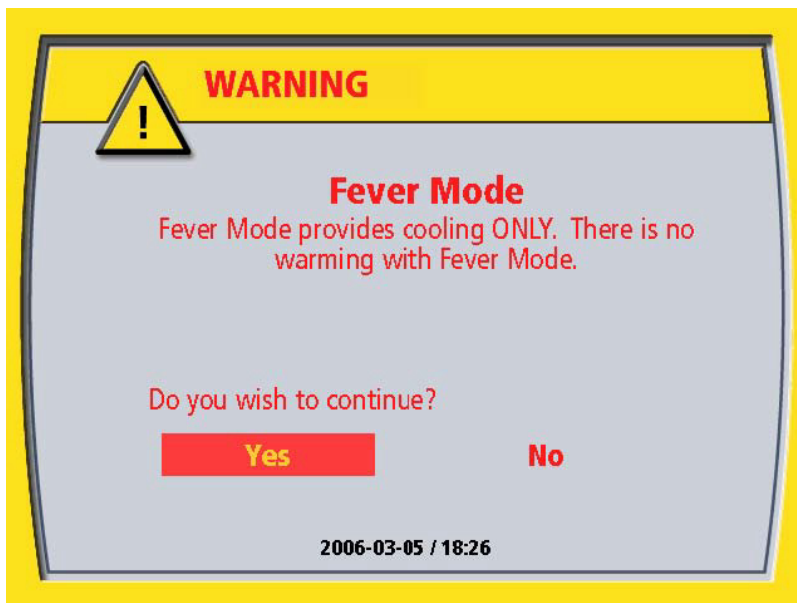

Figure 4.9. Fever Mode Confirmation message
- If you have selected Fever mode, you will be asked to confirm your selection with the reminder that Fever mode only cools and does not warm per Figure 4.9.